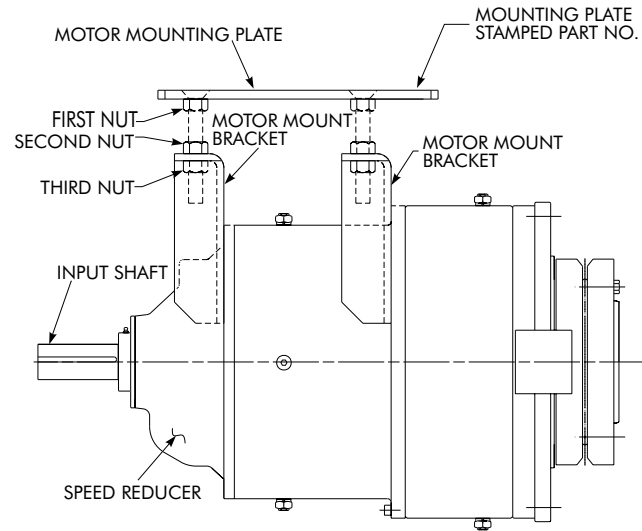

Figure 2.3.1b
- Attach the third nut loosely onto each cap screw to hold the mounting plate/caps crew assembly onto mounting brackets; reference Figure 2.3.1b.